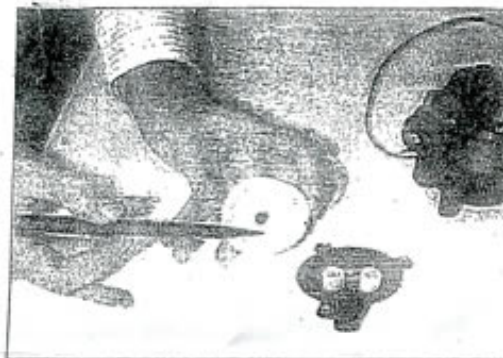

FIG. 6
6. Clean housing, shaft, and gear of powdery residue and install the Delrin bushings in the triangular area of the plastic gear. (Fig. 6)